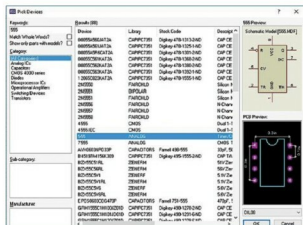

Fig. 20: Pick Devices window
4. From Pick Device window, either search using the keyword or select the component category-wise (Fig. 20). Proteus supports a large variety of electronic components. Selecting each component shows a schematic and PCB preview with other details. Clicking OK will select the device and an image of that device will be shown when the mouse cursor moves over the schematic window. To place device, move the cursor where you want to and click over the schematic. Use Esc key to